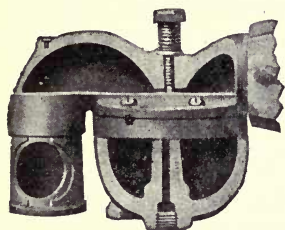

FIG. 183.—Carbureter in Section.
*Carbureter.*—The carbureter (Fig. 183) reduces the liquid fuel to a fine spray and mixes it with sufficient quantity of air